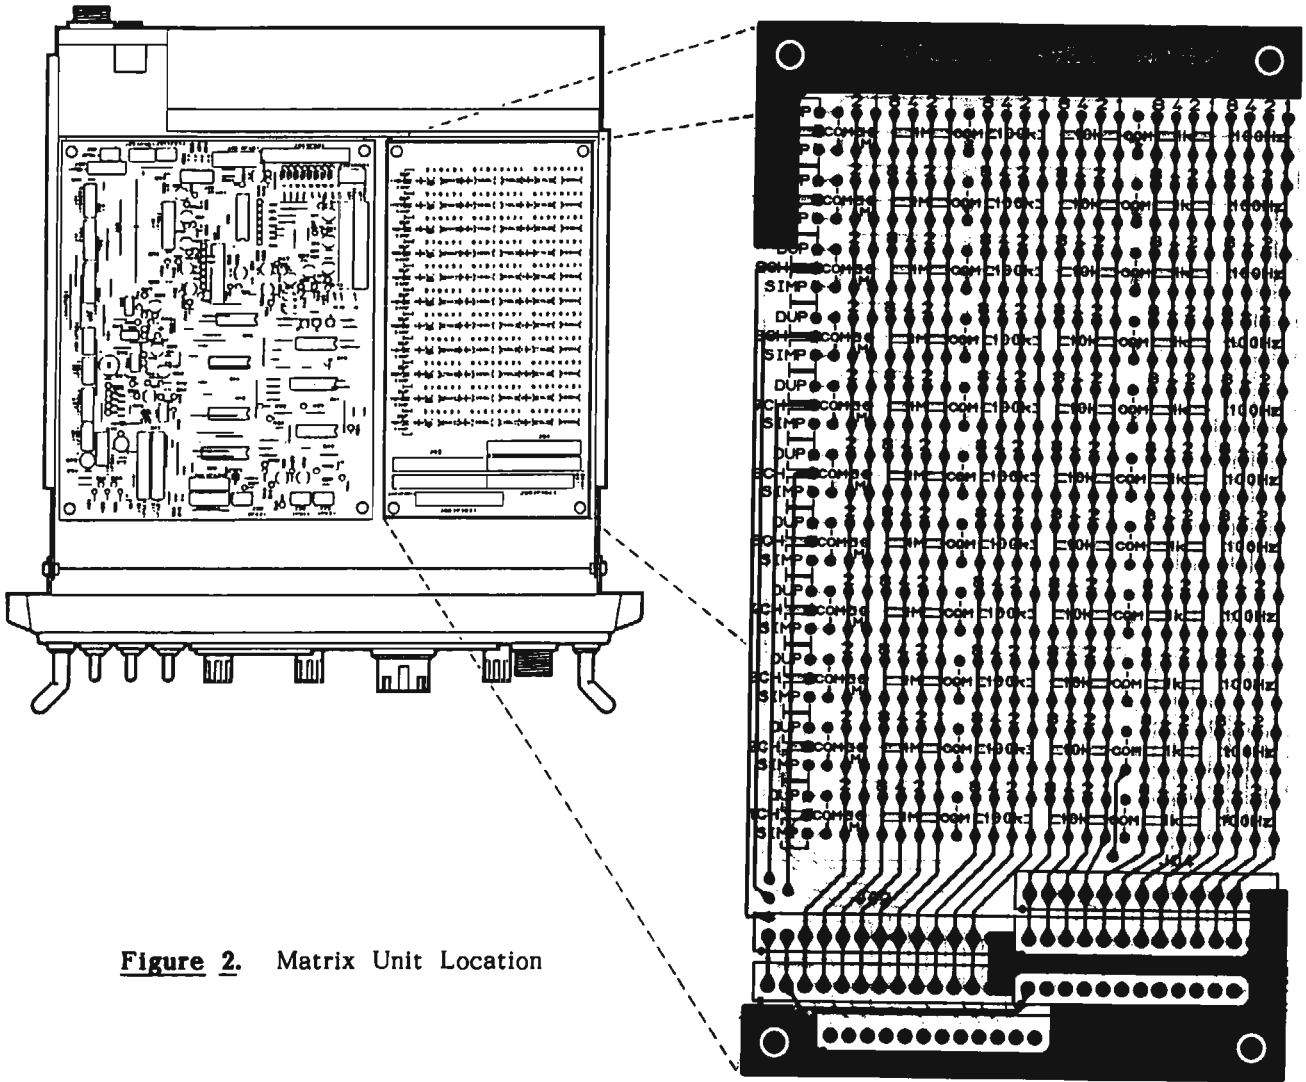

Figure 2. Matrix Unit Location
- (2) Locate the Matrix Unit on the top right half of the chassis, and remove the pull-off connectors and four screws affixing the board. Referring to Figure 2, take a moment to study the layout of the Matrix Unit: there are 22 horizontal rows for installation of up to two sets of three diode arrays for each channel; channel 1 (labelled "1CH") at the front of the board (nearest the connectors), and channel 11 (labelled "11CH") at the rear. Simplex channels require only one row of diodes (in the frontmost row for that channel), while semi-duplex channels require two: the frontmost one for the receive frequency, and the other for transmit.